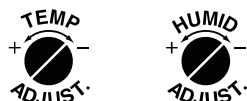

Figure 9
2. Remove the label at right lateral of the unit. Turn the fine adjustment screw with a screwdriver setting the values of the temperature and humidity that reference thermohygrometer indicates. (Figure 9)